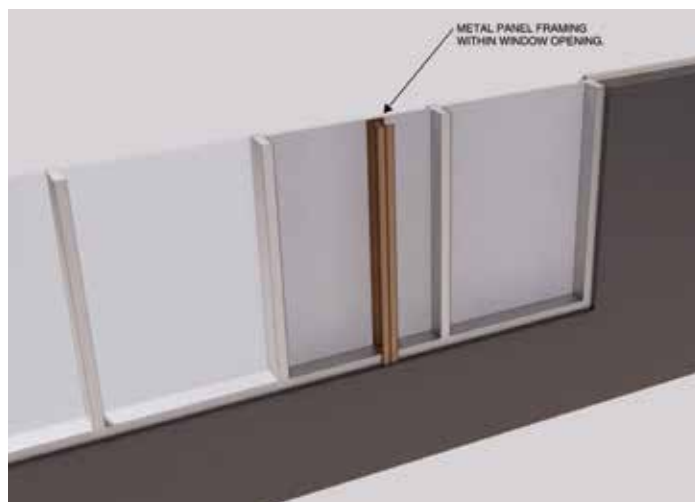

Figure 6: Window coordination
- ✦ 3D view used: Metal panels and architectural walls, windows, doors, and curtain wall only. User can quickly compare opening locations and look for interferences. Orient the view to a floor plan to more easily focus in on a specific area. In this case, as shown in Figure 6, the architectural model requires adjustment.